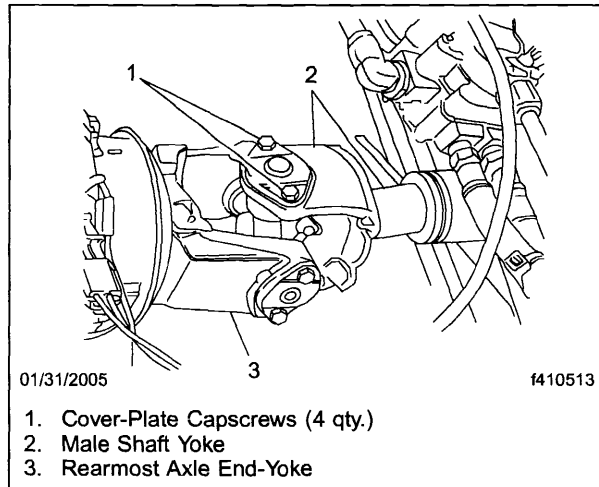

Fig. 1, Cover-Plate Capscrews Location (one side of yoke shown)
3. Remove and discard the four capscrews from the two cover plates of the male shaft yoke (two capscrews in each cover plate), attached to the rearmost axle end-yoke. See **Fig. 1**.